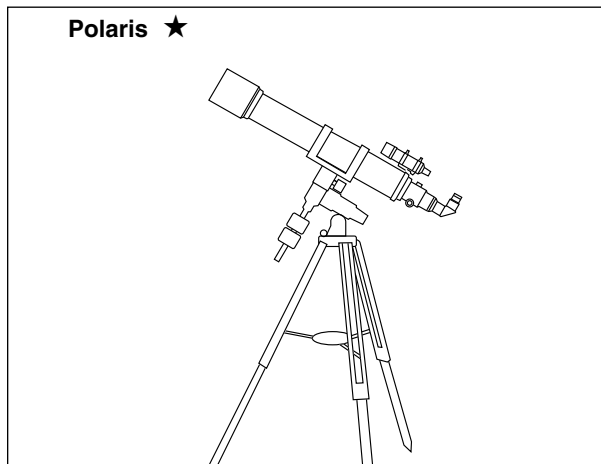

Fig. 12: Telescope aligned too far low.
- a. If the star drifts South, the telescope's polar axis is pointing too low (Fig. 12).